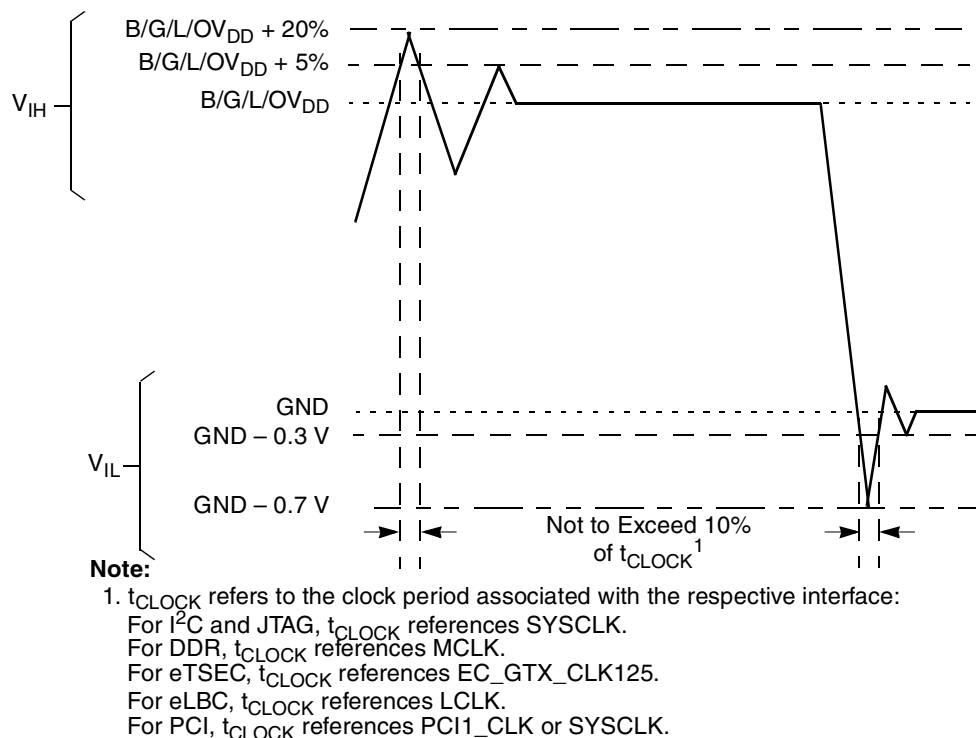

Figure 7. Overshoot/Undershoot Voltage for $GV_{DD}/OV_{DD}/LV_{DD}$
- (M,L,O) V_{IN} and MV_{REF} may overshoot/undershoot to a voltage and for a maximum duration as shown in Figure 7.